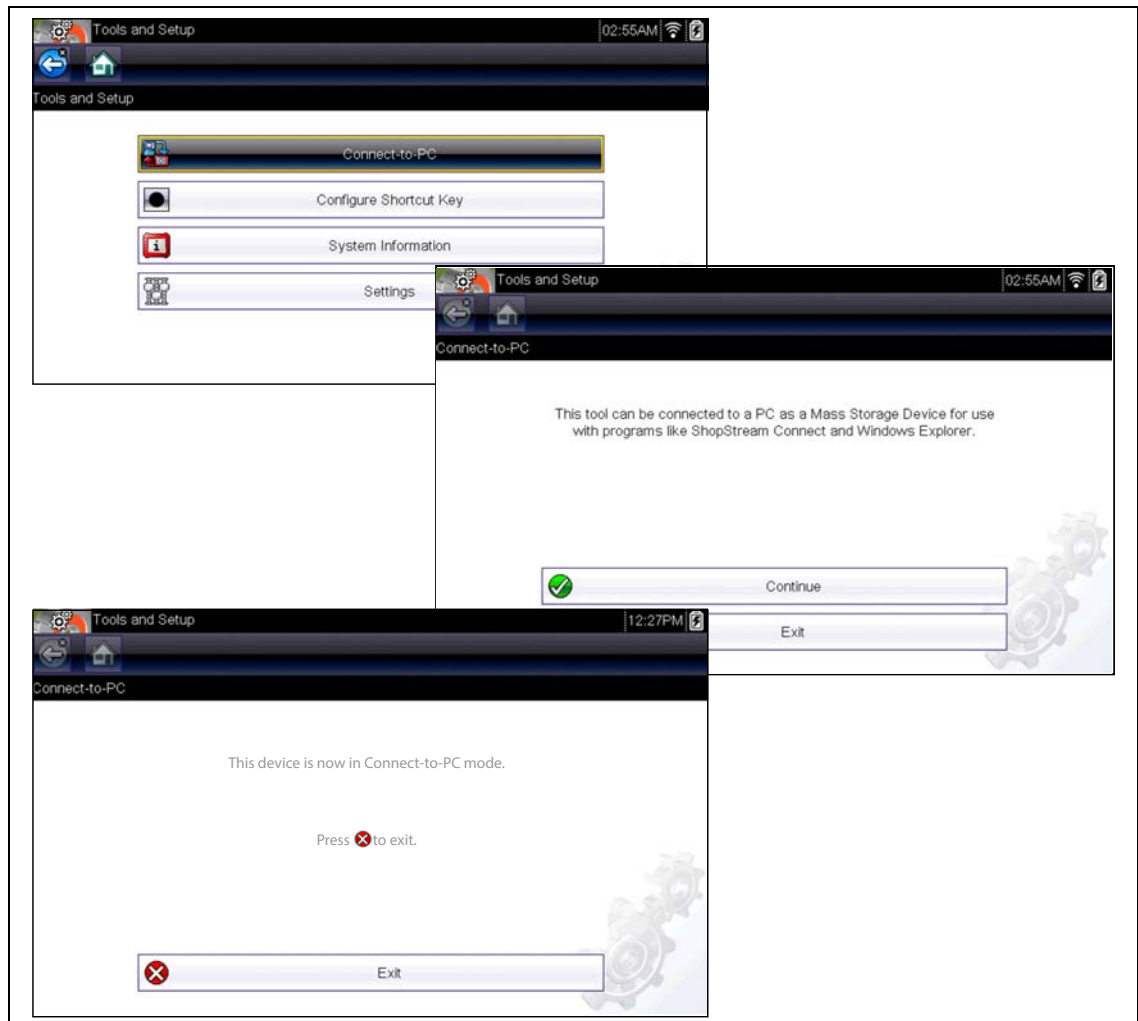

Figure 5-1 Connect-to-PC screens
3. From the Home screen, select **Tools > Connect-to-PC** (Figure 5-1 upper left).
4. Select **Continue** (Figure 5-1 right center).
The now in Connect-to-PC mode screen displays (Figure 5-1 lower left).
To Stop communication select **Exit** (Figure 5-1 lower left).